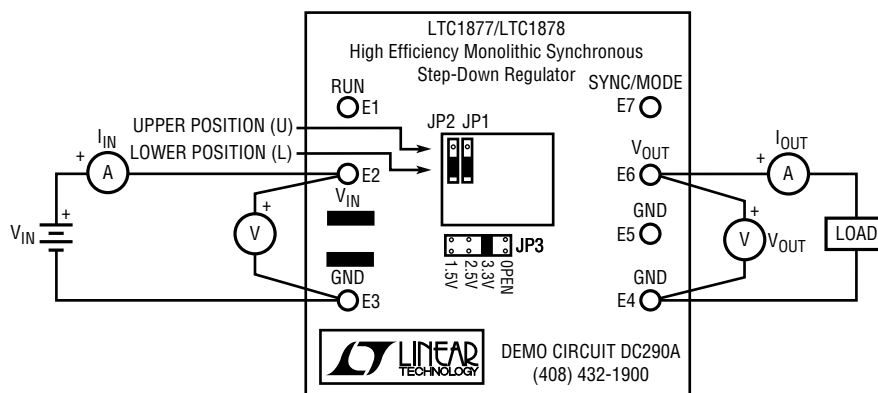

Figure 5. Proper Measurement Setup
- Refer to Figure 5 for proper connection of monitoring equipment to ensure correct measurement.
The LTC1877 and the LTC1878 are capable of Burst Mode operation, in which the internal power MOSFETs operate intermittently based on load demand. To enable Burst Mode operation, simply position jumper JP1 in the lower position to connect SYNC/MODE to V_{IN} . To disable Burst Mode operation and enable PWM pulse skipping mode, position JP1 in the upper position to connect SYNC/MODE to GND (see Figure 5). In this mode, the efficiency is lower at light loads, but becomes comparable to Burst Mode operation when the output load exceeds 50mA. The advantage of pulse skipping mode is lower output ripple and less interference to audio circuitry.
When trying to measure voltage regulation, remember that all measurements must be taken at the point of regulation. This point is where the LTC1877's and LTC1878's control loop looks for the information to keep the output voltage constant. In this demonstration board, this point occurs between V_{OUT} (E6) and GND (E4). Measurements should be taken at these points and not at the end of test leads at the load. Refer to Figure 5 for the proper monitoring equipment configuration.